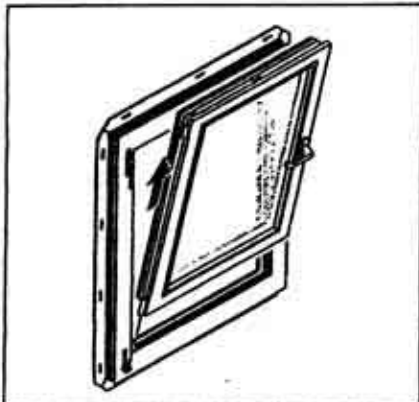

Figure 2-8. How to remove the sash from the frame
- 3.4 Slightly tilt the sash towards you. Lift the sash up off the lower hinge pin. See Fig. 2-8.